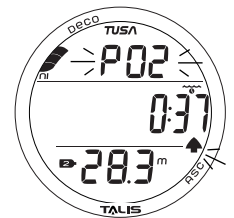
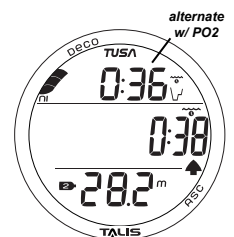

Fig. 71 - HIGH PO2 MAIN
Fig. 72 - HIGH PO2 MAIN
- > The graphic PO2 and Up Arrow icon will be displayed flashing on the Main (Fig. 71) until the Audible is silenced, then the graphic PO2 will alternate with NDC time if in No Deco (Fig. 72), or TAT if in Deco, until PO2 decreases to 0.20 (ATA) below the alarm value set.